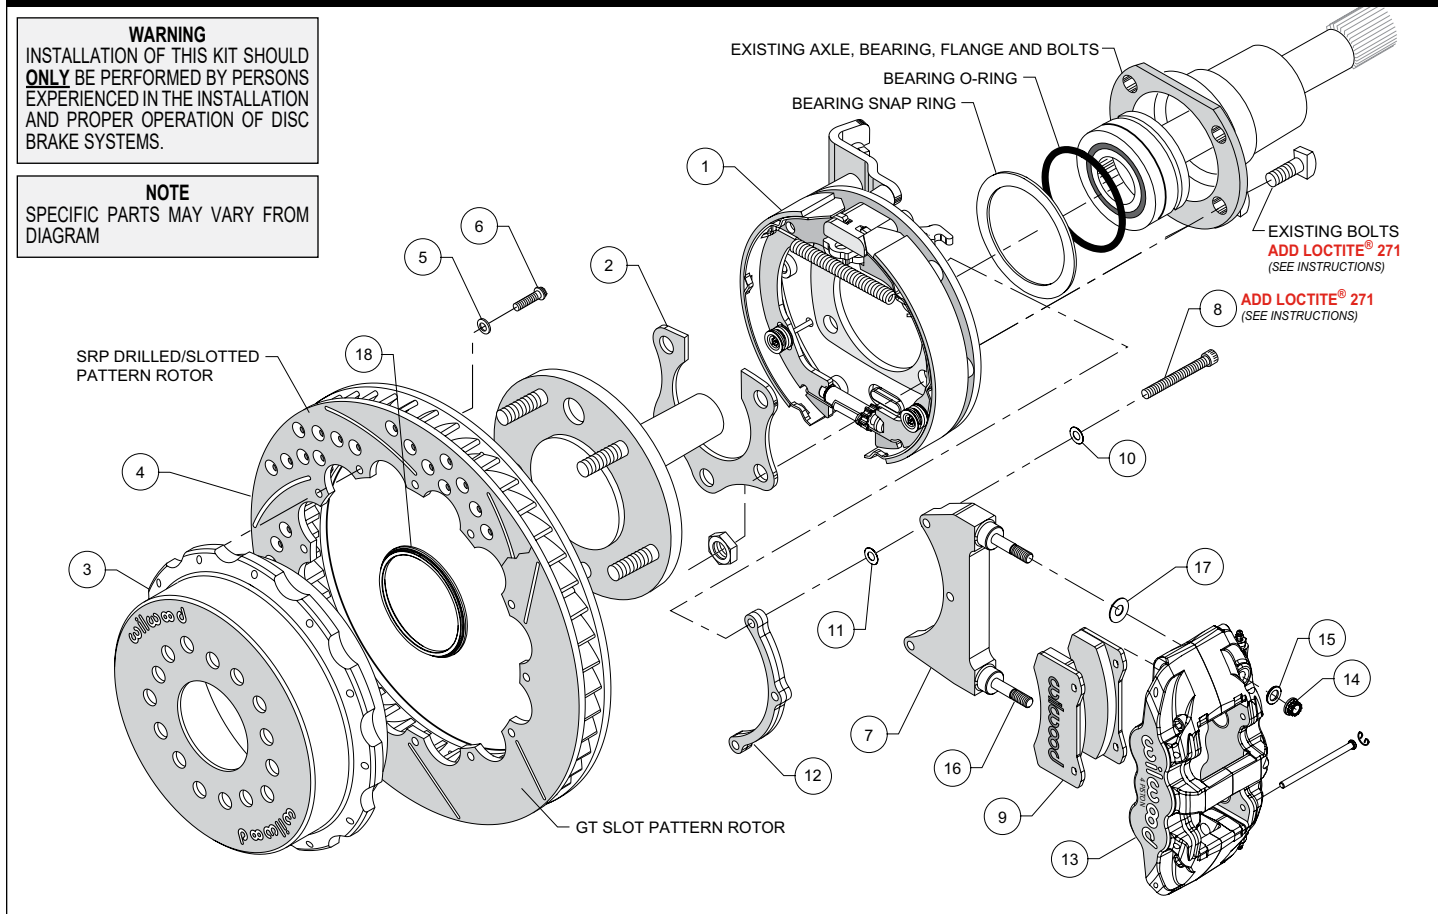

Figure 3. Typical Installation Configuration
NOTE: Numbers in parenthesis refer to the parts list and Figure 3 on the preceding pages.
• Temporarily remove the snap ring and o-ring from the bearing. Use care so as not to damage those components. Orient the bracket assembly (1) as shown in Figure 3 and Photo 1 and slide it onto the axle and past the bearing. Reinstall the snap ring and o-ring onto the bearing, again using care. Insert the axle and bracket into the axle housing. Ensure that the bracket assembly backing plate fits flush against the axle housing flange. **NOTE:** The bearing snap ring should be sandwiched between the axle housing flange and the new bracket assembly.
• Install the bearing retainer (2) with the opening pointing upward and the bearing relief step facing inward (toward the bearing), as shown in Figures 3 and 6 and Photo 2. Secure retainer and bracket assembly to the axle housing flange using the Original Equipment Manufacturer (OEM) bolts and nuts, Figure 3. Apply red *Loctite*® 271 to the OEM bolt threads and torque to OEM specifications.
• **NOTE:** Please reference the caution statement at the beginning of the assembly instructions. The caliper mounting bracket (7) should initially be installed with clean, dry threads on the mounting bolts. Orient the bracket as shown in Figure 3, and install using bolts (8) and flat washers (10). Initially place one .015" shim washer (11) on each bolt between the bracket (7) and spacer (12), Figure 3. Temporarily tighten the mounting bolts. **NOTE:** End of bolt should not exceed inside face of insert. The bracket must tighten squarely against the back side of the bracket kit assembly (1). Inspect for interference from casting irregularities, machining ridges, burrs, etc. Later, after the caliper alignment has been checked, the mount bolts will be secured using red *Loctite*®.
• Orient the rotor (4) and the hat (3) as shown in Figure 3 and Photo 3. Attach rotor to hat using bolts (6) and washers (5). Apply red *Loctite*® 271 to the bolt threads and torque to 155 in-lb using a criss-cross pattern. For an added measure of security, the
- Slide the rotor registration adapter (18) onto the axle register on the axle flange with the smaller O.D. facing toward the rotor/hat (4 and 3), Photo 4. Align the correct hole pattern in the hat with the stud pattern on the axle flange and slide into place, Figure 3 and Photo 5. **NOTE:** The rotor/hat must fit flush against the axle flange or excessive rotor run out may result. Install three lug nuts (finger tight) to keep the rotor/hat assembly in place while continuing with the installation. **NOTE:** Some OEM and after market axles come with stud sizes larger than 0.50" diameter. Verify stud size and have a qualified machine shop drill the bolt circle of the hat/rotor to the correct stud size, if necessary.
- Lubricate the caliper mounting studs with lightweight oil. Initially place one .030" thick shim (17) on each stud between the caliper and the bracket, as shown in Figure 3 and Photo 6. Mount the caliper (13) onto the bracket (7) using lock nuts (14) and washers (15), Figure 3. Temporarily tighten the lock nuts and view the rotor through the top opening of the caliper. The rotor should be centered in the caliper, Photo 7. If not, adjust by adding or subtracting shims (11) between the bracket (7) and the spacer (12). Always use the same amount of shims on each of the three mounting bolts. **NOTE:** The ends of the mounting bolts must fully engage, but not exceed, the inside face of the clinch nuts in the backing plate. If needed, add or subtract spare shims (11) and/or washers (10) under the bracket bolt heads to achieve proper clinch nut engagement. Once the caliper alignment and clinch nut engagement are correct, remove the bracket mounting bolts one at a time, apply red Loctite® 271 to the threads, and torque to 180 in-lbs.
- Remove the two pad retaining pins from the caliper (13) by carefully popping out the pin retaining clips and sliding out the pins. Insert the brake pads (9) into the caliper from the bottom, Figure 3 and Photo 8. With the friction material facing the rotor, secure the brake pads in place with the pad retaining pins and clips, Photo 9. Reinstall the caliper onto the caliper mounting bracket and temporarily tighten the lock nuts. Check that the top of the brake pad is flush with the outside diameter of the rotor, Photo 10. If not, adjust by adding or subtracting shims (17) between the caliper and the bracket. After the caliper pad height is set, torque the caliper lock nuts (14) to 47 ft-lb.
- Install three lug nuts to hold the rotor/hat (4/3) in place. Remove the rubber grommet in the bracket assembly (1) and adjust the parking brake shoes outward (using a drum shoe adjustment tool available at your local auto parts store) while spinning the rotor/hat (4/3) until a slight drag is felt against the hat/drum. Replace the rubber grommet when finished.
- NOTE:** Clevis and cable kits which attach to the parking brake assembly are not included in the Wilwood parking brake kit. Wilwood offers a generic style parking brake cable kit, P/N 330-9371 for this application which can be ordered separately from your local Wilwood dealer or by calling Wilwood customer service at (805) 388-1188.